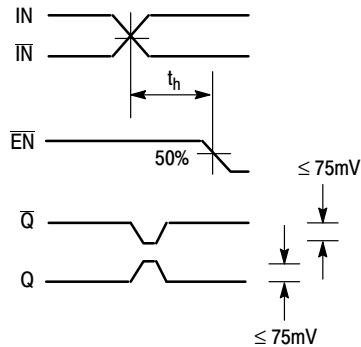

Figure 4. Hold Time
6. The hold time is the minimum time that EN must remain asserted after a negative going IN or a positive going \bar{IN} to prevent an output response greater than $\pm 75\text{ mV}$ to that IN/ \bar{IN} transition (Figure 4).
- The hold time is the minimum time that $\overline{\text{EN}}$ must remain asserted after a negative going IN or a positive going $\overline{\text{IN}}$ to prevent an output response greater than $\pm 75\text{ mV}$ to that $\text{IN}/\overline{\text{IN}}$ transition (Figure 4).